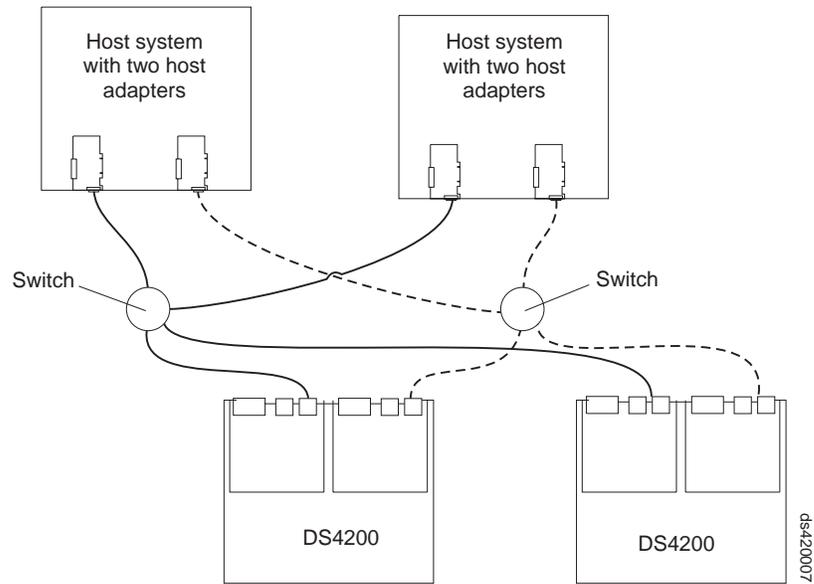

Figure 59. Example of two storage subsystems in a dual SAN environment
- Two storage subsystems in a dual SAN fabric configuration, as shown in Figure 59 on page 77
In Figure 59 on page 77, the fibre channel switches are not connected together. Each switch forms its own SAN fabric.